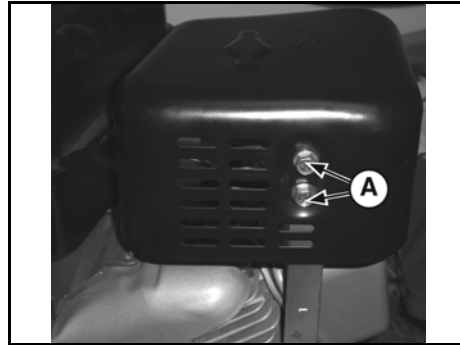

Figure 9
1. Remove screws (A, Figure 9) holding muffler guard to muffler.